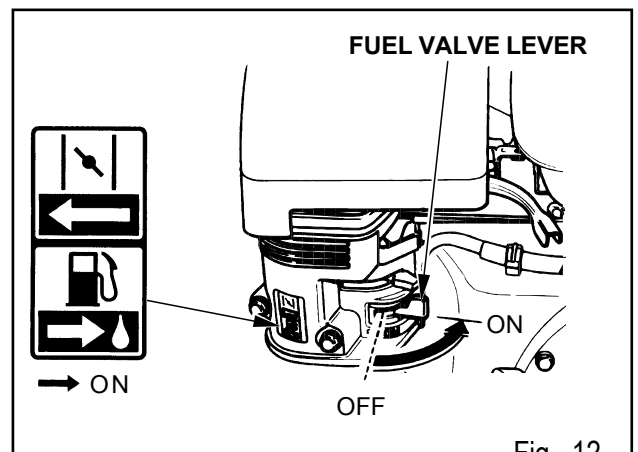

Fig. 12
1. Move the fuel valve lever to the ON position. (Fig.12)